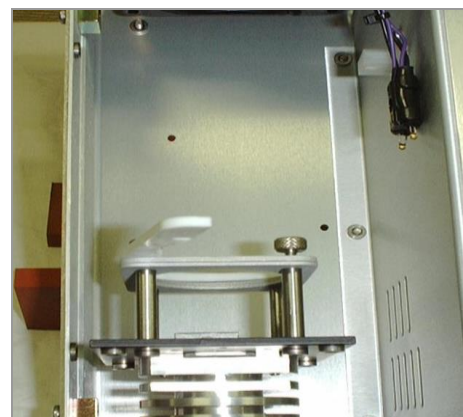

Figure 9. Bulb Reflector Removal
- Remove the Bulb Reflector Assembly (Figure 9).